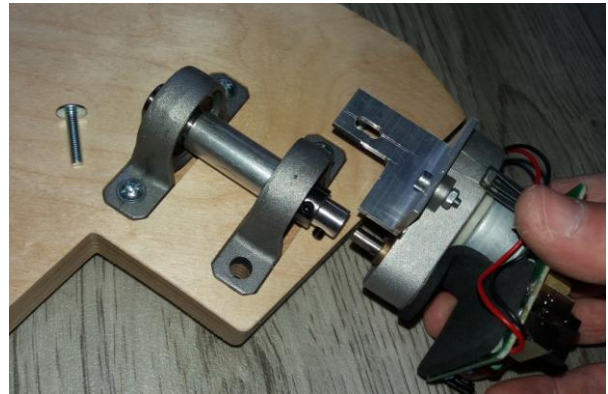

Fig. 2b
4. Insert the motor shaft into the roller marked in fig. 2b and then tighten the roller screw, taking care to match the chamfered part of the motor shaft with the roller screw (**attention: the shaft enters without play, so you may need to insert it by slightly twisting it**);